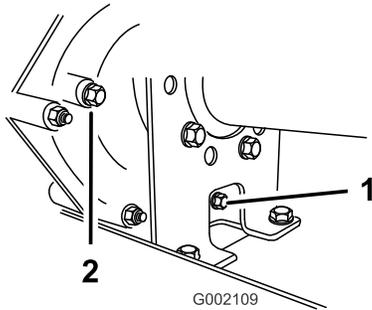
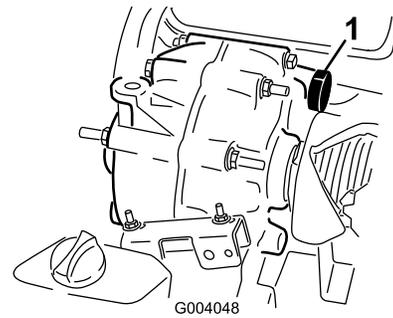

Figure 60
Figure 61
2. Wipe the area around the fill and drain plugs clean with a rag (Figure 60).
4. Remove the fill plug by rotating it counterclockwise (Figure 60).
5. Remove the drain plug by rotating it counterclockwise (Figure 60).
6. Install and tighten the drain plug and gasket into the drain-plug hole of the transmission (Figure 60).
7. Fill the reservoir (Figure 61) through the fill-plug hole with approximately 1.4 L (1.5 US qt) of the specified fluid or until the fluid level in the transmission is even with the bottom of the threads. (Figure 60).
8. Install and tighten the fill plug and gasket into the fill-plug hole of the transmission (Figure 60).
10. Check the fluid level and add more fluid if the level is below the threads of the fill-plug hole (Figure 60).